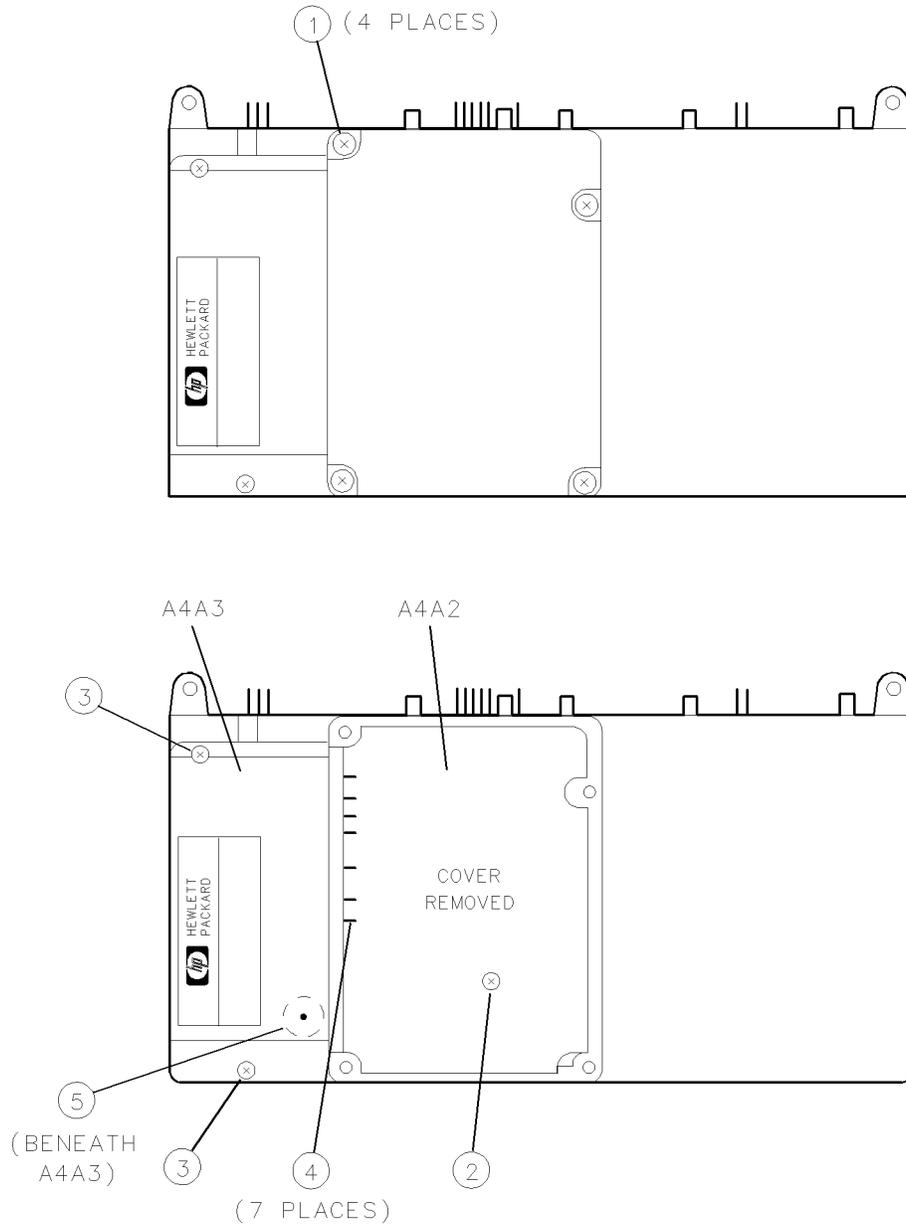

Figure 9-6. A4A2 Idler Lock and A4A3 Idler VCO Microcircuit Removal/Replacement
2. Remove four cover screws ①, then remove the cover. See Figure 9-6.
3. Remove the screw ② from the A4A2 idler lock and the two screws ③ from the A4A3 idler VCO microcircuit.
4. Carefully remove the A4A2 idler lock/A4A3 idler VCO microcircuit by lifting straight up. Do not bend the feedthrough pin ⑤ on the bottom of the A4A3 idler VCO microcircuit.